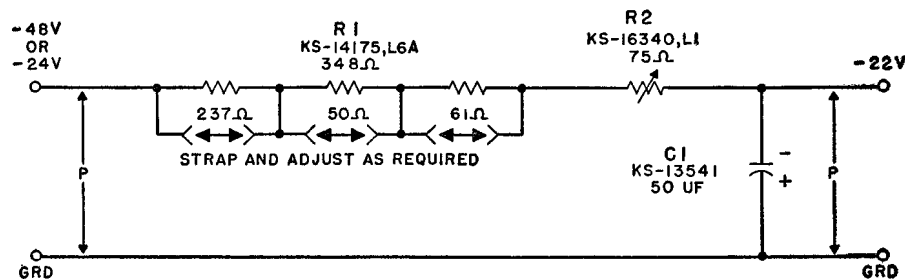

Fig. 2 — 22.5-Volt Supply Circuit
3.03 To provide the proper operating voltages to the repeater when making the adjustments or tests at a bench location, use a spare J86463 power supply or connect the following apparatus to form the network shown in Fig. 2: